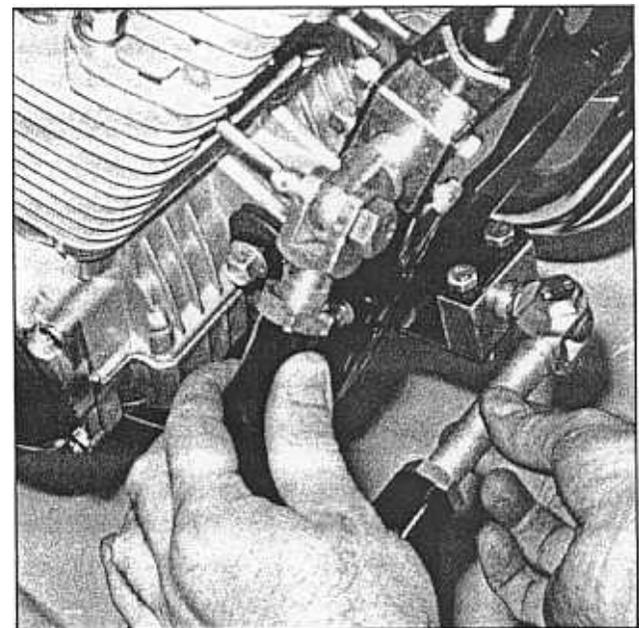

FIGURE 8. Bolts fitted to front Clevis Adjusting Bolts hold Struts in place during adjustment procedures.
11. Fit the **Clevis Adjusting Bolts** of the **Struts** and of the **Curved Bar** to the **Eyebolts** of each **U-Clamp**, and insert the **Bolts** to hold the **Struts** in place. See figures 8 and 9. During alignment operations these **Bolts** must be removed to allow the **Clevis Adjusting Bolt** to be turned in or out, as necessary. The **Locknuts** on all **Clevis Adjusting Bolts** are left loose at this time, but will be tightened securely after toe-in and lean-out adjustments are completed.